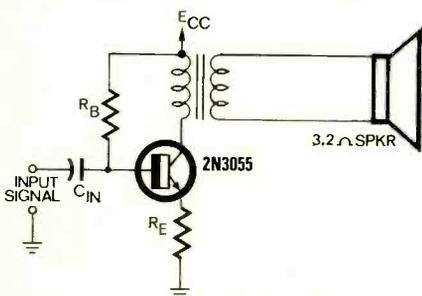

FIG. 1—CLASS-A POWER AMPLIFIER. Constants for this simple, but practical circuit are calculated in the text.
1. Draw a workable circuit. In order to keep the dc current out of the speaker winding, an output transformer should be used. For improved thermal stability use a resistor in the emitter to provide dc feedback. If desired, bypass it with a capacitor to prevent ac degeneration and the reduction of power reaching the loudspeaker. A valid circuit arrangement is shown in Fig. 1.
varies with the size of resistor placed between the base and emitter. Break-down voltages are specified on data sheets for different resistor values. There is no resistor used in the circuit in Fig. 1. Then the BV_{CEO} rating applies. BV_{CEO} is the voltage that may be applied between the collector and emitter of the transistor without destroying the device, when there is no resistor between the base and emitter. BV_{CEO} is the breakdown voltage when the current flowing through the device is very small. As the collector current increases, the BV_{CEO} breakdown voltage is reduced to a more or less constant value, $V_{CEO(sus)}$, referred to as the sustaining voltage. For the 2N3055, $V_{CEO(sus)}$ is 60 volts. V_{CEA} should be equal to or less than 60 volts. Taking various factors into consideration, such as peak voltages due to the primary inductance of the transformer, the possibility of getting transistors at reduced prices when $BV_{CEO(sus)}$ is low, the economy of a low-voltage power supply, etc., choose V_{CEA} at 25 volts.